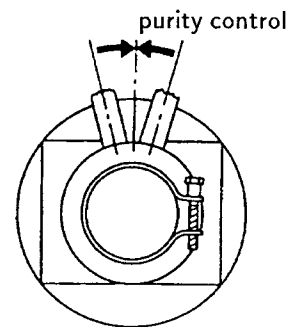

Fig.2
2. Loosen the deflection yoke mounting screw, and set the purity control to the center as shown in Fig.2.